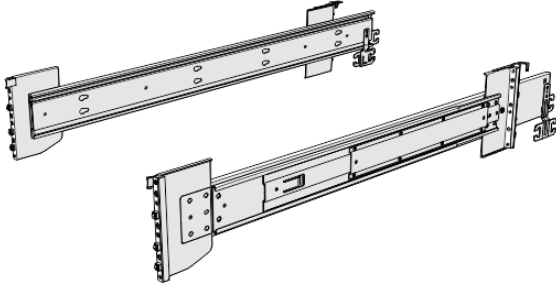

Figure 43. Support rails
1. Locate the hardware that is used to install the rails, including the M4xL6 and M5xL13 screws. Set the hardware, which is shown in Figure 43 on page 86, aside for use later in the installation process.